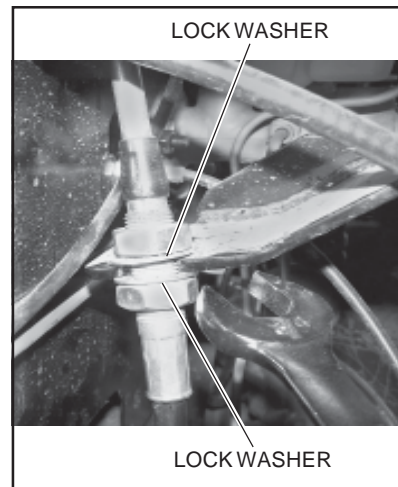

Figure 14
10. Place the shifting cable housing on the mounting bracket with a lock washer on each side of the bracket (Figure 14).
11. Tighten shifting cable housing nuts (Figure 14) securely.